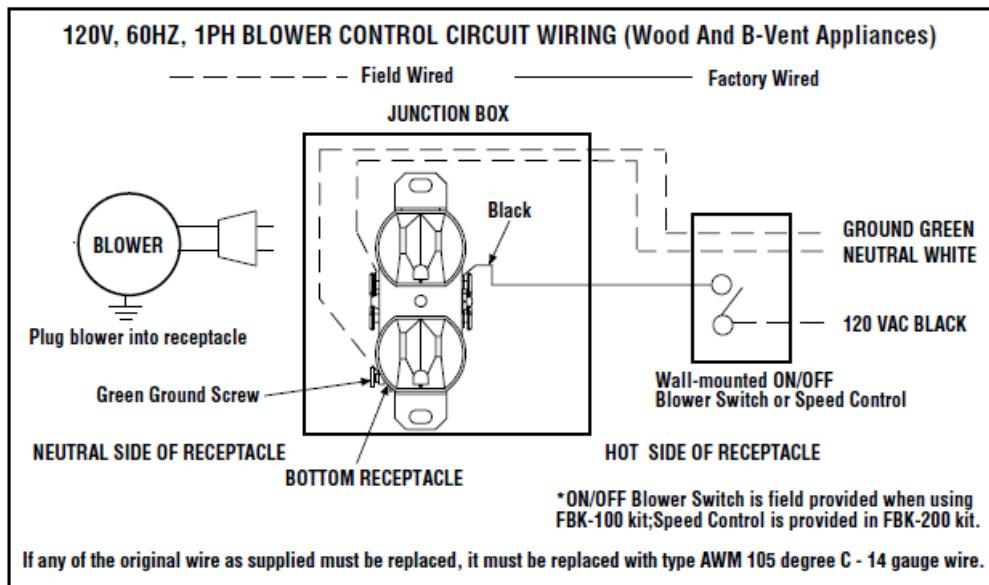

Figure 8
Step 6. Connect electrical outlet and switch wires to the power supply: 3-wire, 120 VAC, 60 Hz, 1 ph power supply (**See Figure 8**).